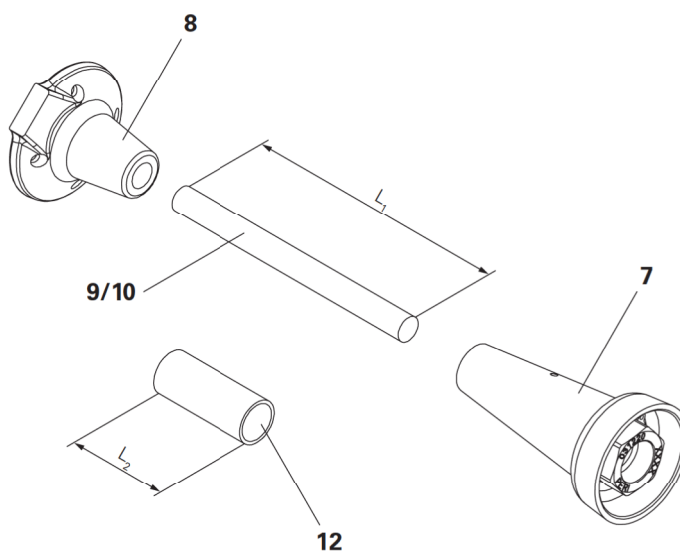

Fig. A2.09
- $L2 = h - 18,5$ cm (tolleranza da 0 a +5 mm) (Fig. A2.09)